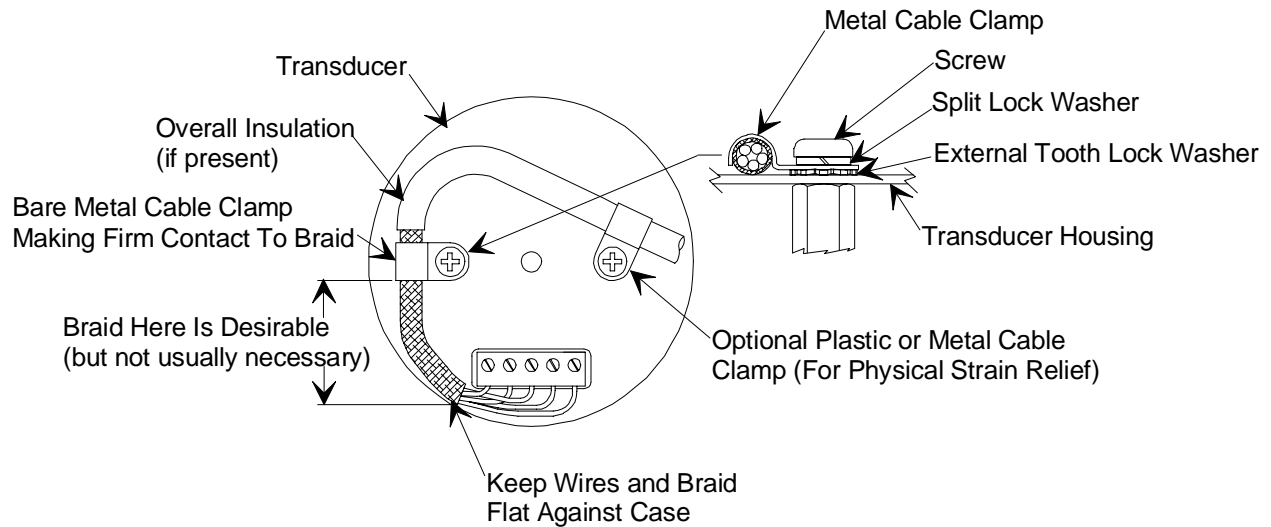

Figure 1: Preferred Method To Connect an Overall Metal Braided Shielded Cable
4. For shielded cables with flying leads at one or both ends; it is important at each such end, to ground the shield *before* the wires exit. Make this ground with absolute minimum length. Refer to Figures 1 and 2, page 22. (A ¼ inch piece of #22 wire may be undesirably long since it has approximately 5 nH of inductance, equivalent to 31 ohms at 1000 MHz). After picking up the braid's ground, keep wires and braid flat against the case. With very few exceptions, grounded metal covers are not required over terminal strips. If one is required, it will be stated in the Declaration of Conformity or in the instruction manual.